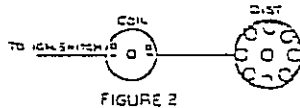

FIGURE 2
7. Disconnect wires connected between the distributor and the negative (-) terminal on the coil. (See figure 2.)